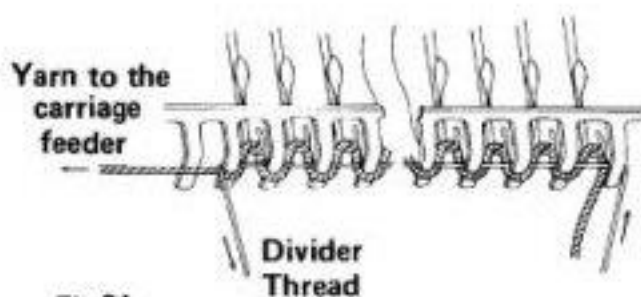

Fig.31
- (d) Take the end of the divider thread and pass it between the slot in the sinker plate immediately to the right of the last needle on the right hand side of the machine, and then lay it along the inside of the sinker plate over the yarn loops but clear of the hooks of the needles as shown in Fig.31, and then pass between the slot in the sinker plate immediately to the left of the last needle.